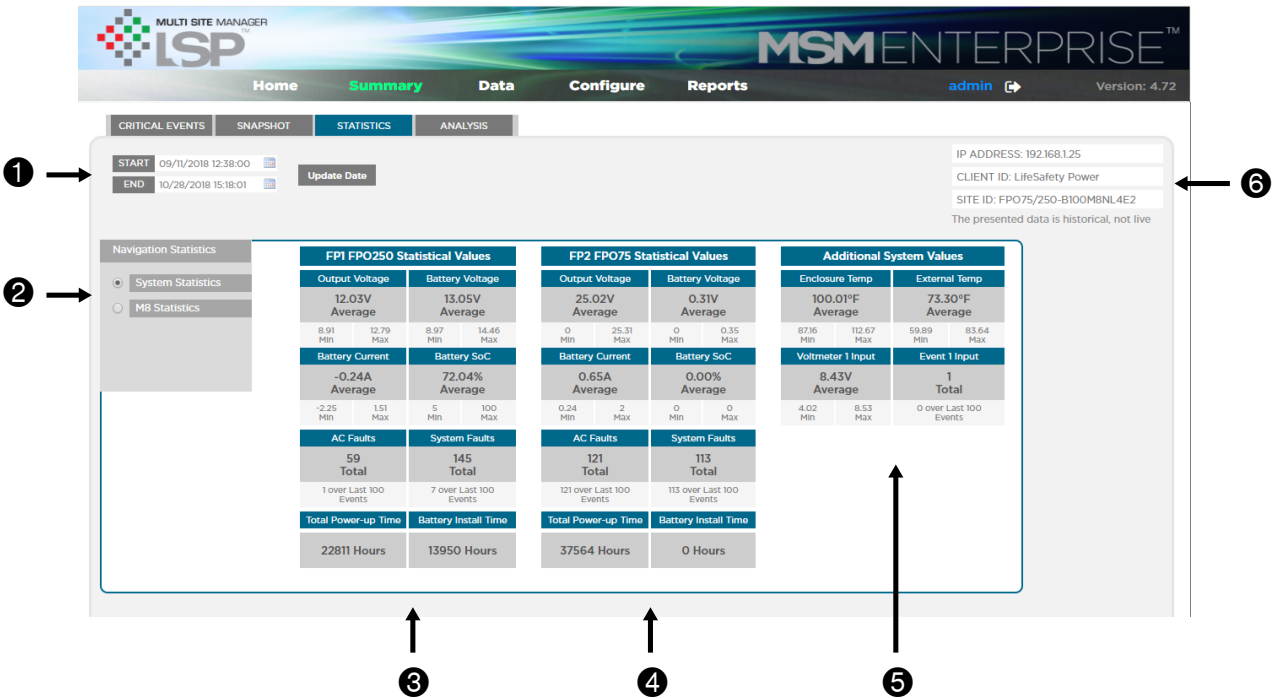

Figure 30
The Statistics tab provides statistical data on the parameters collected by the NetLink device (Figures 30 and 31). Note that the statistics are calculated based only on the range of events selected in the Time and Date Range selection, not necessarily the full range of data.
- System Statistics - This selection will show statistical data for the power supplies, as well as additional NetLink-specific parameters (Figure 30).